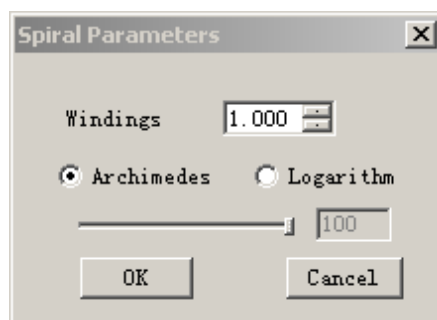

Fig. 4-20
2. The Spiral Parameters dialog (Fig. 4-20) is displayed.